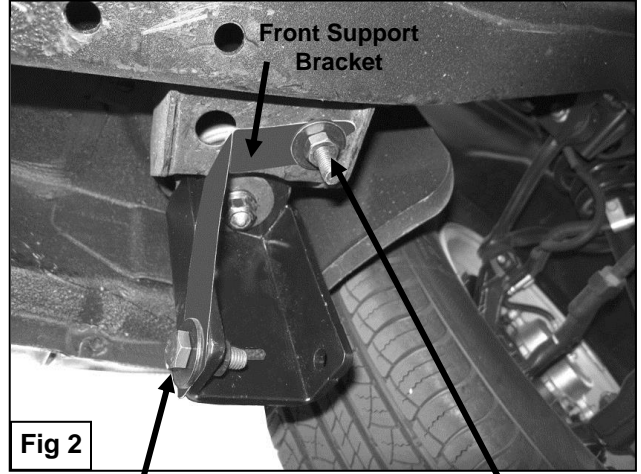

Fig 2
4. Loosely attach opposite side of front Support Bracket to rear hole in the already install Mounting Bracket using the included (1) 10mm x 30mm Hex Head Bolt, (1) 10mm Lock Washer, (1) 10mm Hex Nut, and (2) 10mm Flat Washer (**Figure 2 & 4**).